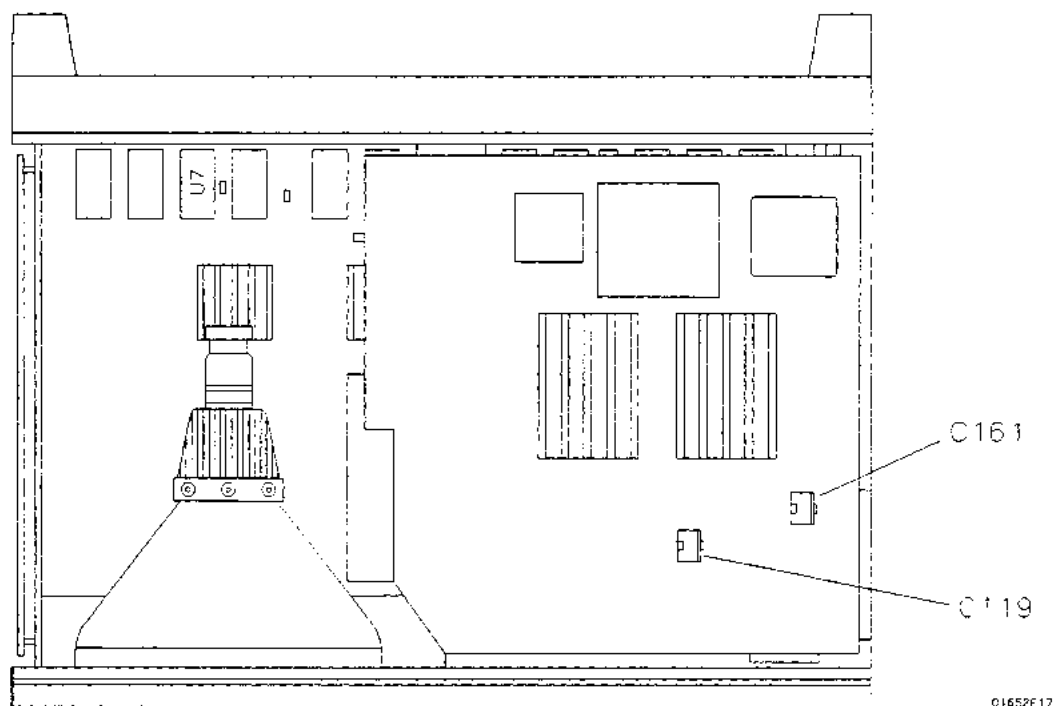

Figure 4-6. High-Frequency Pulse Adjustments
13. The rise time should be 3.5 nS and overshoot should be < 10%. If either of these is out of specification, adjust the appropriate capacitor. The capacitor locations are shown in figure 4-6.